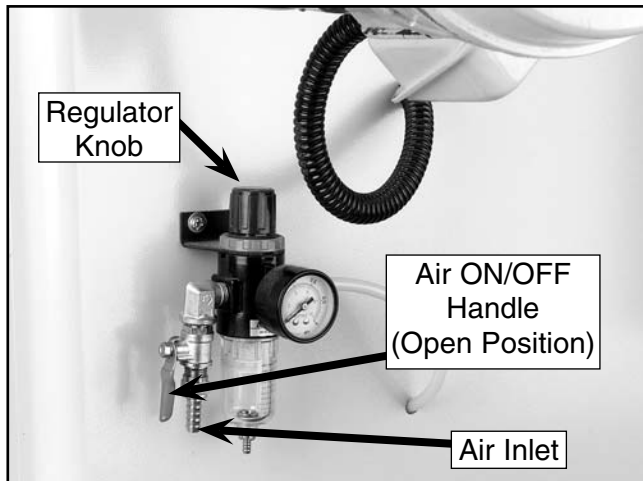

Figure 11. Air inlet located on regulator.
1. Connect the hose from your air compressor to the air inlet (**Figure 11**) on the regulator.
3. Lift the regulator knob (**Figures 11 and 12**) and turn it until the air pressure gauge reads 75 PSI. **Note:** Turn the knob clockwise to increase the air pressure and counterclockwise to lower the air pressure.